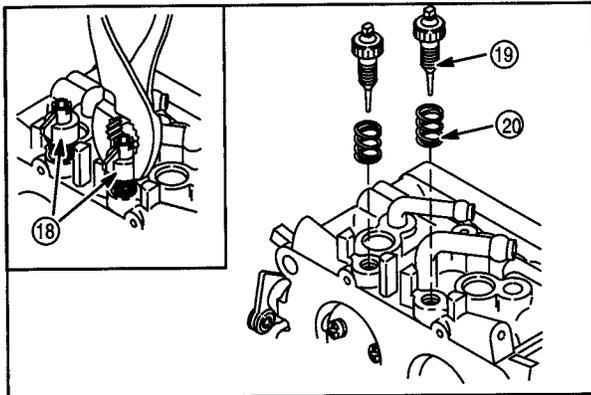

Fig. 65
- Remove idle mixture screws (19) and springs (20), Fig. 65.
NOTE: If idle mixture screws are equipped with adjustment limiter caps, remove the caps (18) BEFORE removing idle mixture screws, inset, Fig. 65.